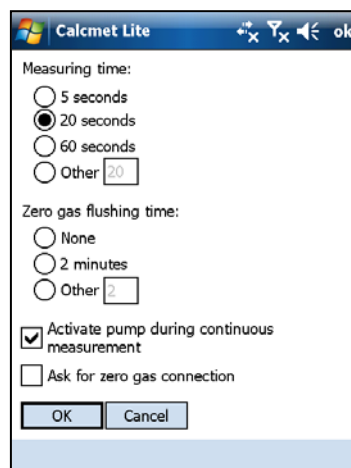

Figure 18. Activate pump during continuous measurement.
- After a successful zero calibration, sample measurements can be performed. The sample pump is switched on when continuous measurement is started if pump mode is activated in Settings → Measuring → Activated Pump during continuous measurement (Figure 18).